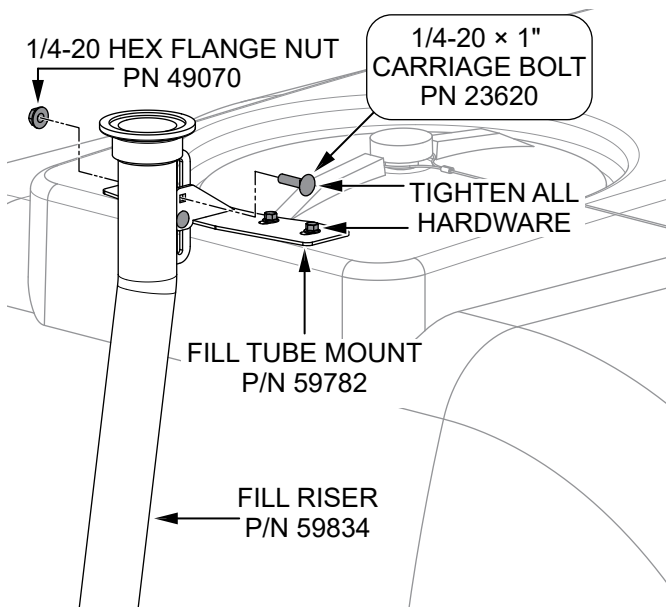

Figure 20. Secure Fill Tube Mount To Fill Riser
- Use two 1/4-20 × 1" carriage bolts (P/N 23620) and two 1/4-20 hex flange nuts (P/N 49070) to secure the fill tube mount (P/N 59782) to the fill riser (P/N 59834) as shown in Figure 20. Securely tighten all of the hardware from this step and step 2.